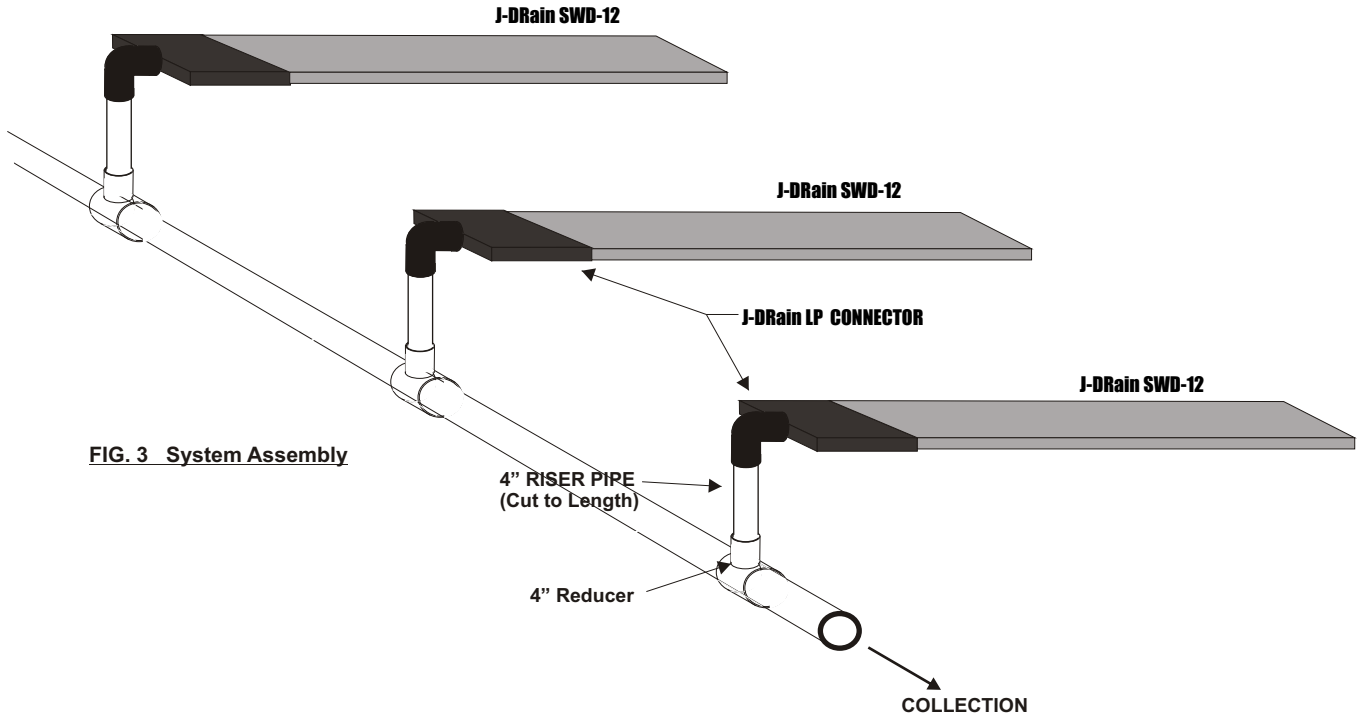

FIG. 3 System Assembly
**OTHER FITTINGS:** **J-DRain LS SIDE OUT** empties water from the *Sideline Trench* into a 4" pipe.. It can be positioned at any location along the *Sideline Trench*. **J-DRain LS END OUT** is used at the end of a *Sideline Trench* to transfer water to a 4" pipe. **J-DRain 6" End Cap** is used to cover a cut end of **J-DRain SWD-6**. (See Fig. 3)
**SYSTEM ASSEMBLY:** Fig 3 shows an assembly of the components of the drainage system along with their proper fittings for connections.
**OTHER FITTINGS:** **J-DRain 6-6 T CONNECTOR** empties water from the *Lateral Trench* to the *Collector Trench*. (See Fig. 3) It can be positioned at any location along the *Collector Trench*. **J-DRain 6-6 SPLICE** is used to join two sections of at the end of **J-DRain SWD-6**. **J-DRain 6" End Cap** is used to cover a cut end of **J-DRain SWD-6**. **J-DRain 6-4 END OUT** is used to transition to a 4" corrugated pipe. **J-DRain 6-4 SIDE OUT** is used to transition to a 4" corrugated pipe.